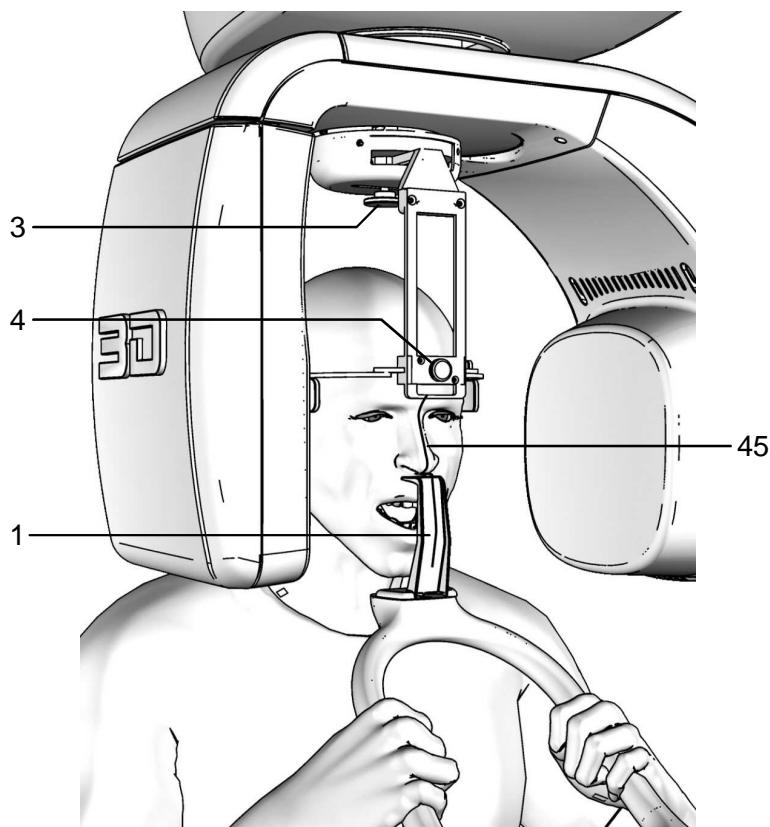

Figure 23 – Open mouth examination positioning
3. Position the patient again if he has been removed from the centring device (Figure 23). Tell him to open his mouth (helping him to keep in position using appropriate mechanical devices - not supplied - if necessary).
- (6)  to begin preparation for exposure.
7. Place the temple clamp in contact with the patient's head by means of the appropriate knob (4 - Figure 23).
8. Press the key "Patient Entrance" (6)  to confirm the